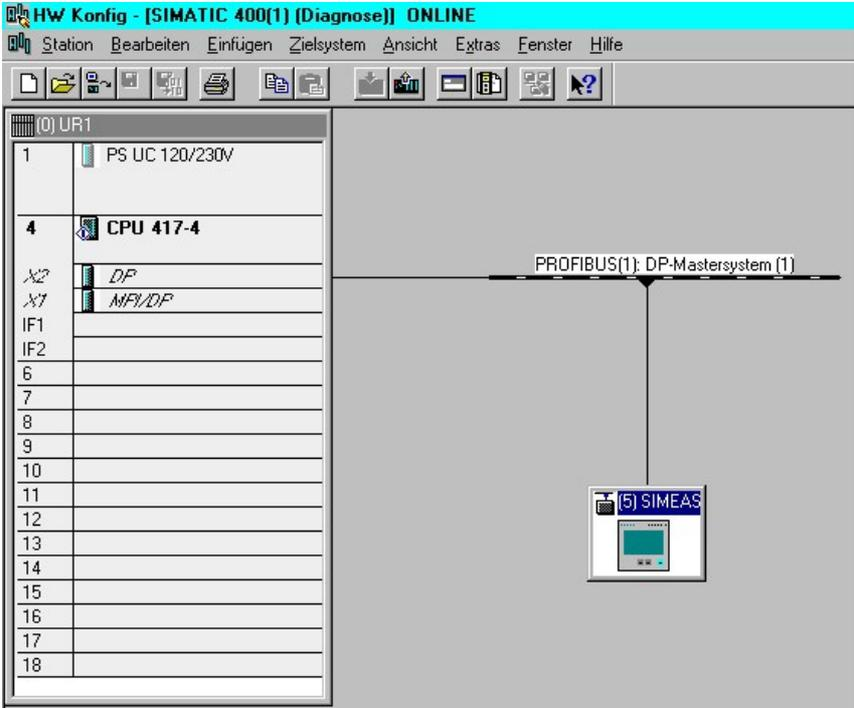

figure 6: HW-config online mode
- 7. Please check the profibus network, whether all devices are working properly. One possibility to do this, is to switch the HW-config into online mode. Incorrect working slaves will be shown with a red symbol. After a successful configuration of the network the HW-config should look like the following figure. (see: figure 6: HW-config online mode).